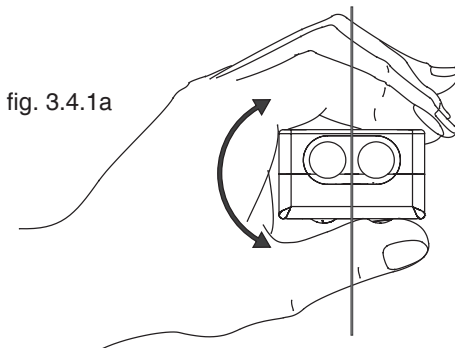

fig. 3.4.1a
- Place the process material between the two rollers (fig. 3.4.1a).